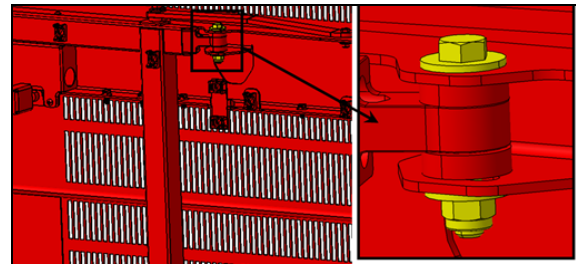

FIGURE 49
- If the longitudinal position is out of tolerance, adjust using the adjustment provided on the inner side of the door, at the upper attachment point of the arm on the door (FIGURE 49).